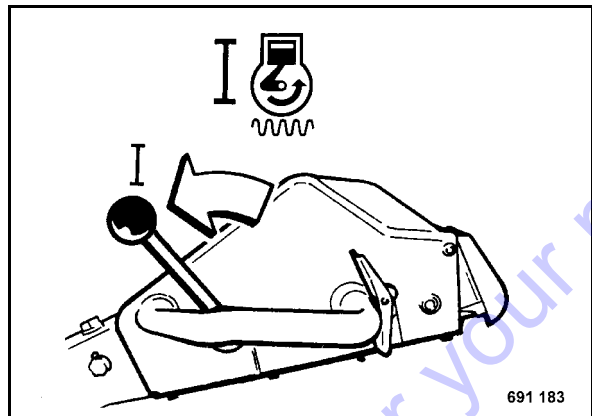

Fig. 25
- Set the throttle lever (Fig. 25) to vibration step 1.